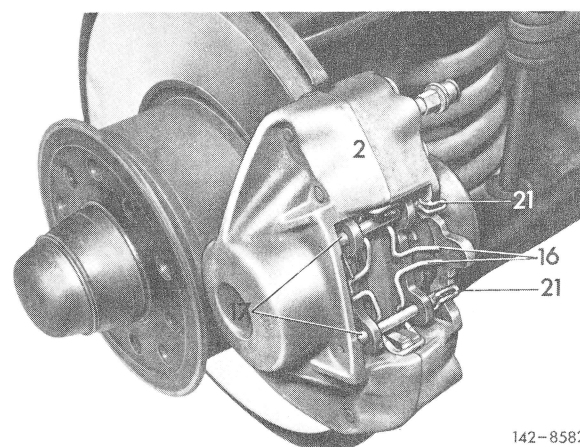

Fig. 5
4 On Bendix-caliper, pull both eyelets (21) out of holding pins (17), remove holding pins and lining holding springs (16) (Fig. 5).
16 On Bendix-caliper, mount lining holding springs (16), insert holding pins (17) into caliper and eyelets (21) into holding pins (Fig. 5 and 14).